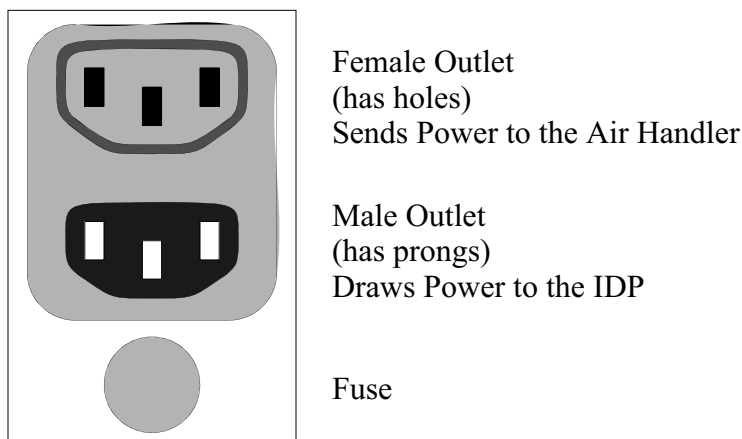

Figure 2-2 Outlets for IDP Power and Air Handler
3. Connect the IDP to a wall socket using a standard power cord. Plug the power cord into the male outlet on the side of the IDP, which is just above the fuse as shown in Figure 2-2.